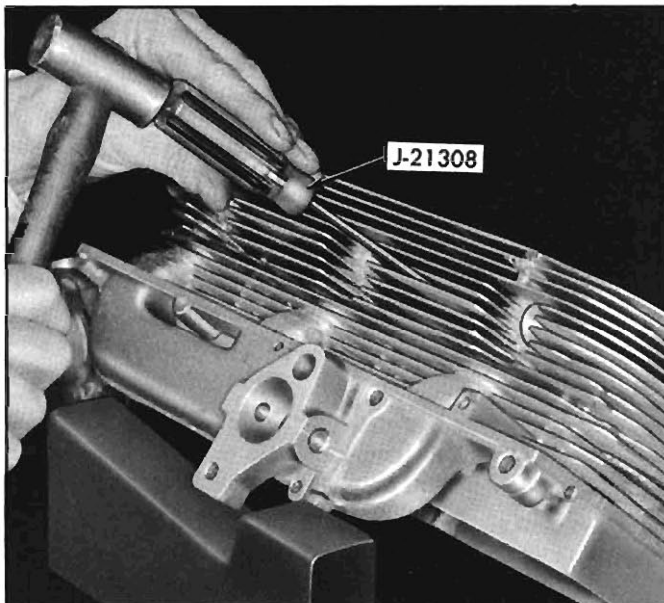

Fig. 12—Cleaning Air Passages Between Fin
1. Inspect the cylinder head for restrictions in the air circulating passages formed by the cooling fins. Casting flash or a build-up of other foreign material that could decrease cooling efficiency can be easily removed from the air passages using the J-21308 Fin Cleaning Tool (Fig. 12).
OIL PRESSURE SENDING SWITCH (Fig. 12)